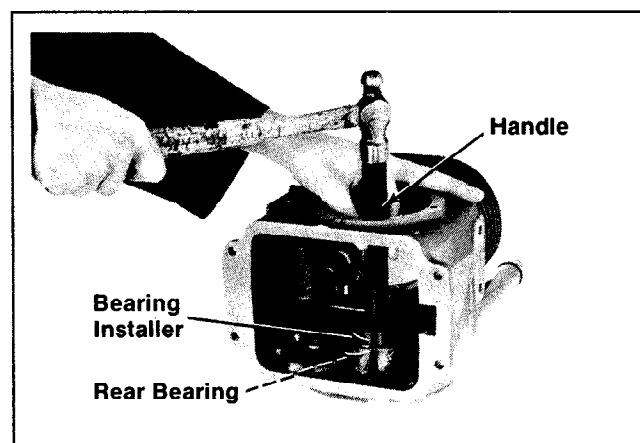

Figure 12-1. Installing Rear Bearing.
1. Install the rear bearing into crankcase using the #4747 handle and appropriate bearing installer. (Refer to the "Special Tools" section). Make sure the bearing is bottomed fully, and is straight and true in bore. Refer to Figure 12-1. Install the rear main bearing by pressing it into cylinder block. If using a shielded type bearing, install with shielded side facing toward inside of block.